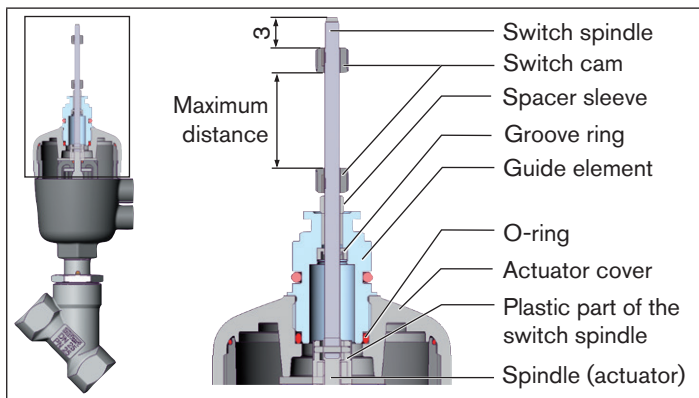

Fig. 11: Installation of the switch spindle (2), series 20xx
- Press the O-ring downwards into the cover of the actuator (see “Fig. 11”).
! Ensure that the distance between both switch cams is maximum (see "Fig. 11").